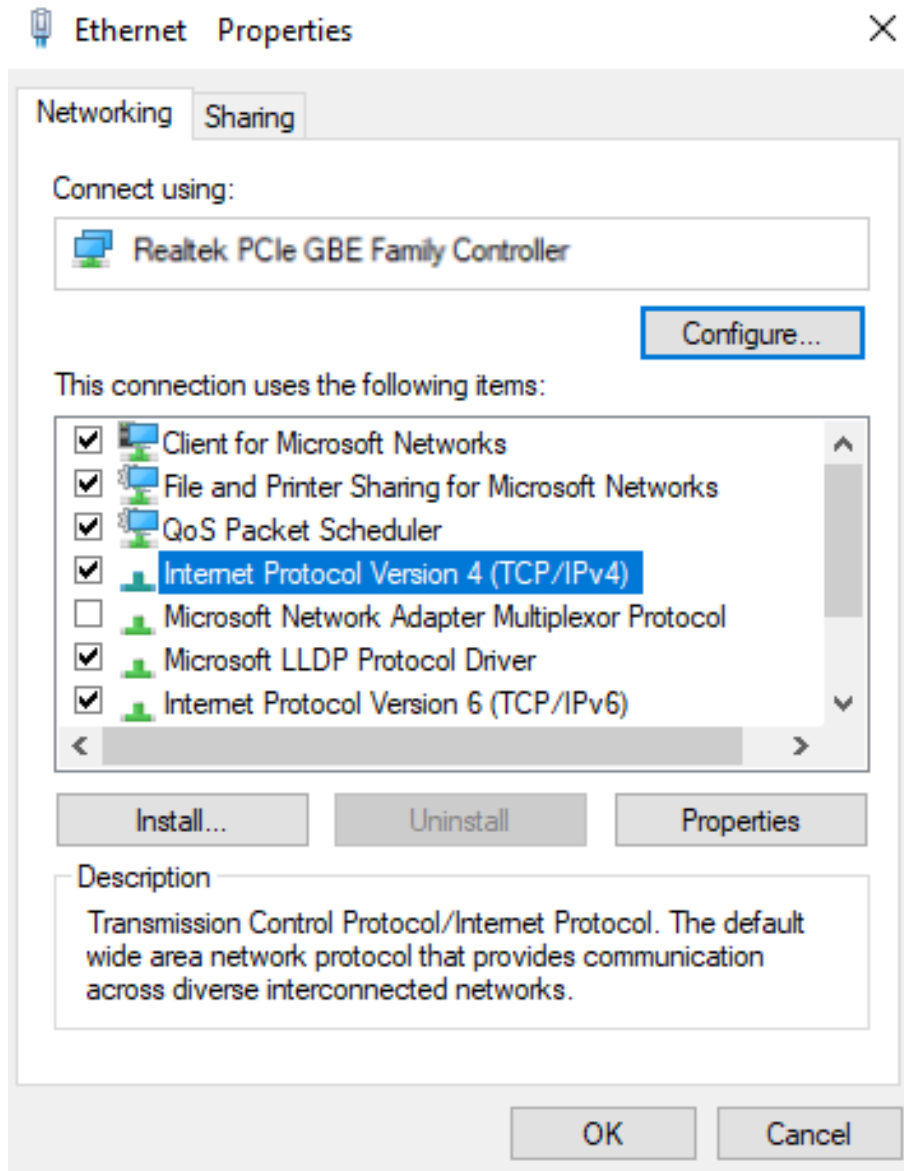

Figure A.6: Selecting IPv4 option
**Step 6** Select the “Internet Protocol Version 4 (TCP/IPv4)” option. Click on the “Properties” button (Figure A.6).